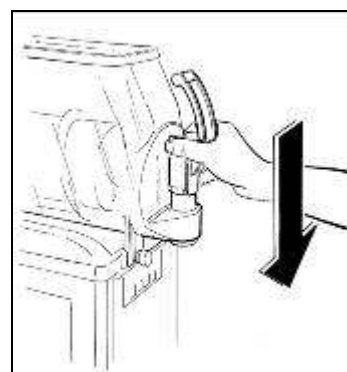

Fig. 27
- Re-insert the tap (fig.27) spreading Vaseline on the o-rings to facilitate sliding the tap in its seat until completely inserted.